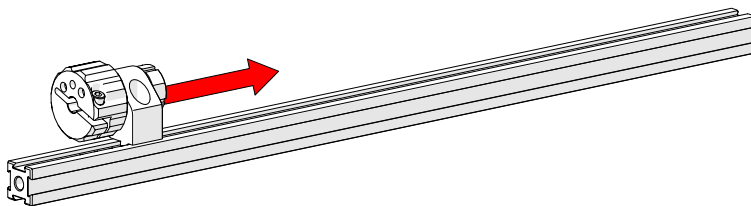

Fig. 139 - Slide main knob to middle of frame bar
2. Slide the main knob to the middle of the frame bar (Fig. 139).